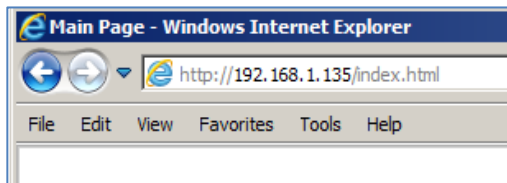

Figure 8.2-1: Example address where the computer running DQCsys Operator has the IP address: **192.168.1.135**
2. Go to one of the following address below replacing COMPUTER with either the computer name or IP address of the machine running DQCsys Operator. (Figure 8.2-1)